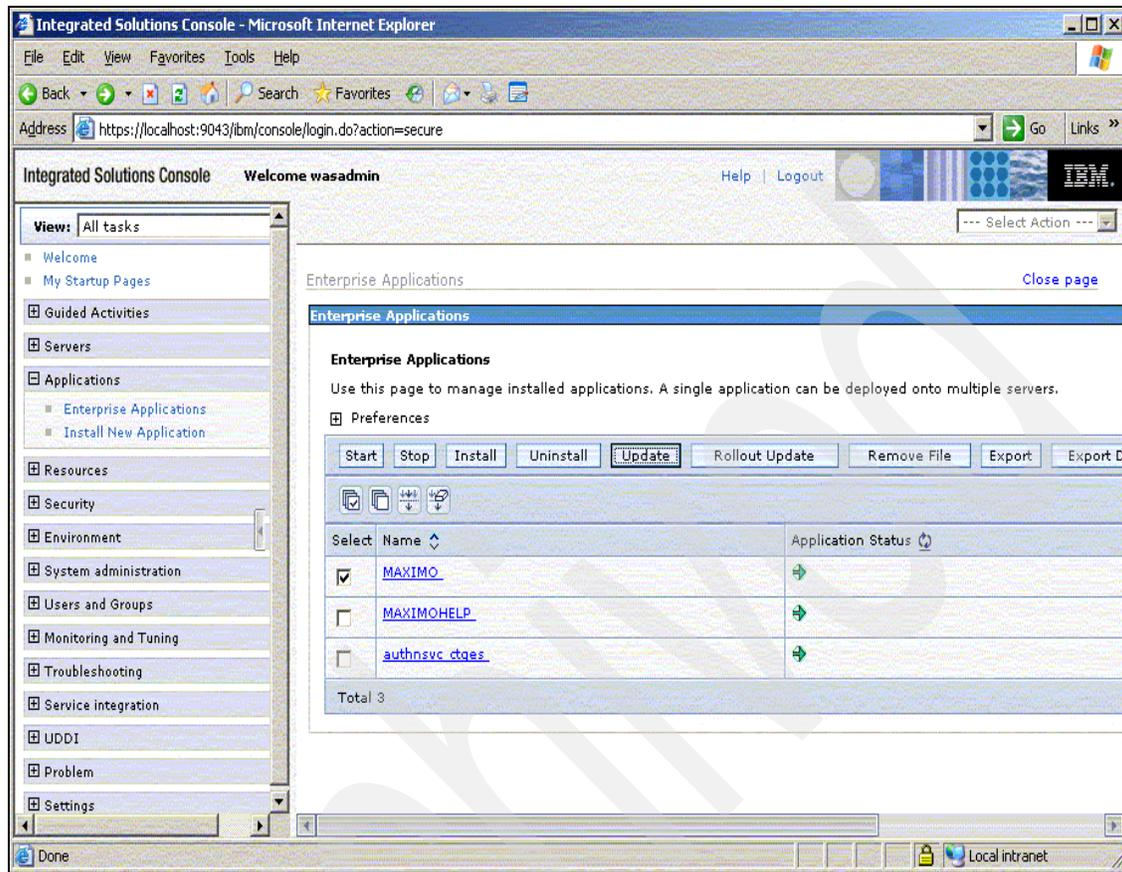

Figure 5-3 Enterprise Applications window
4. The Enterprise Applications window is displayed. Refer to Figure 5-3 on page 179.